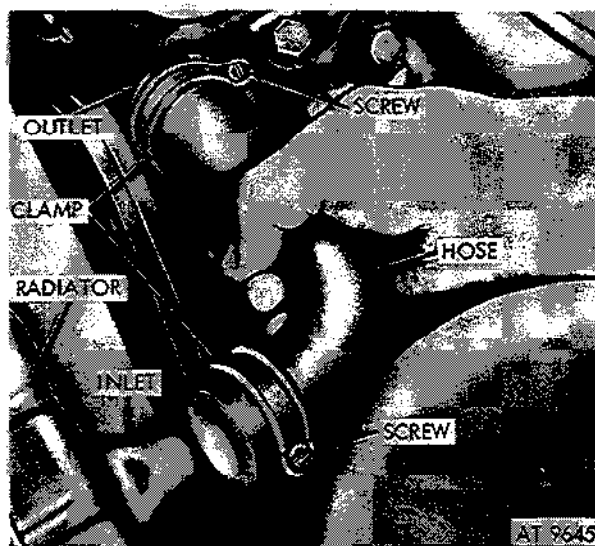
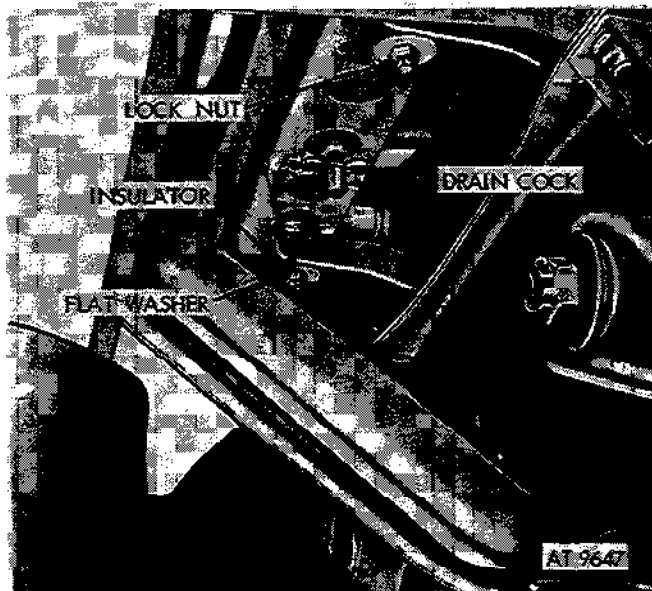

Figure 2-132. Remove upper radiator hose.
Figure 2-134. Radiator mounts and drain cock.
(1) Open drain cock and drain radiator (fig. 2-134). Loosen clamps and pull hose from inlet of radiator and from outlet of cylinder head (fig. 2-132).
(1) Open drain cock and drain radiator (fig. 2-134).
(2) Loosen screw in radiator hose clamp and pull inlet hose from radiator (fig. 2-132).
(5) Remove two lower mounting locknuts, flat washers, and insulators (fig. 2-134).
(2) Remove radiator upper hose (fig. 2-132).